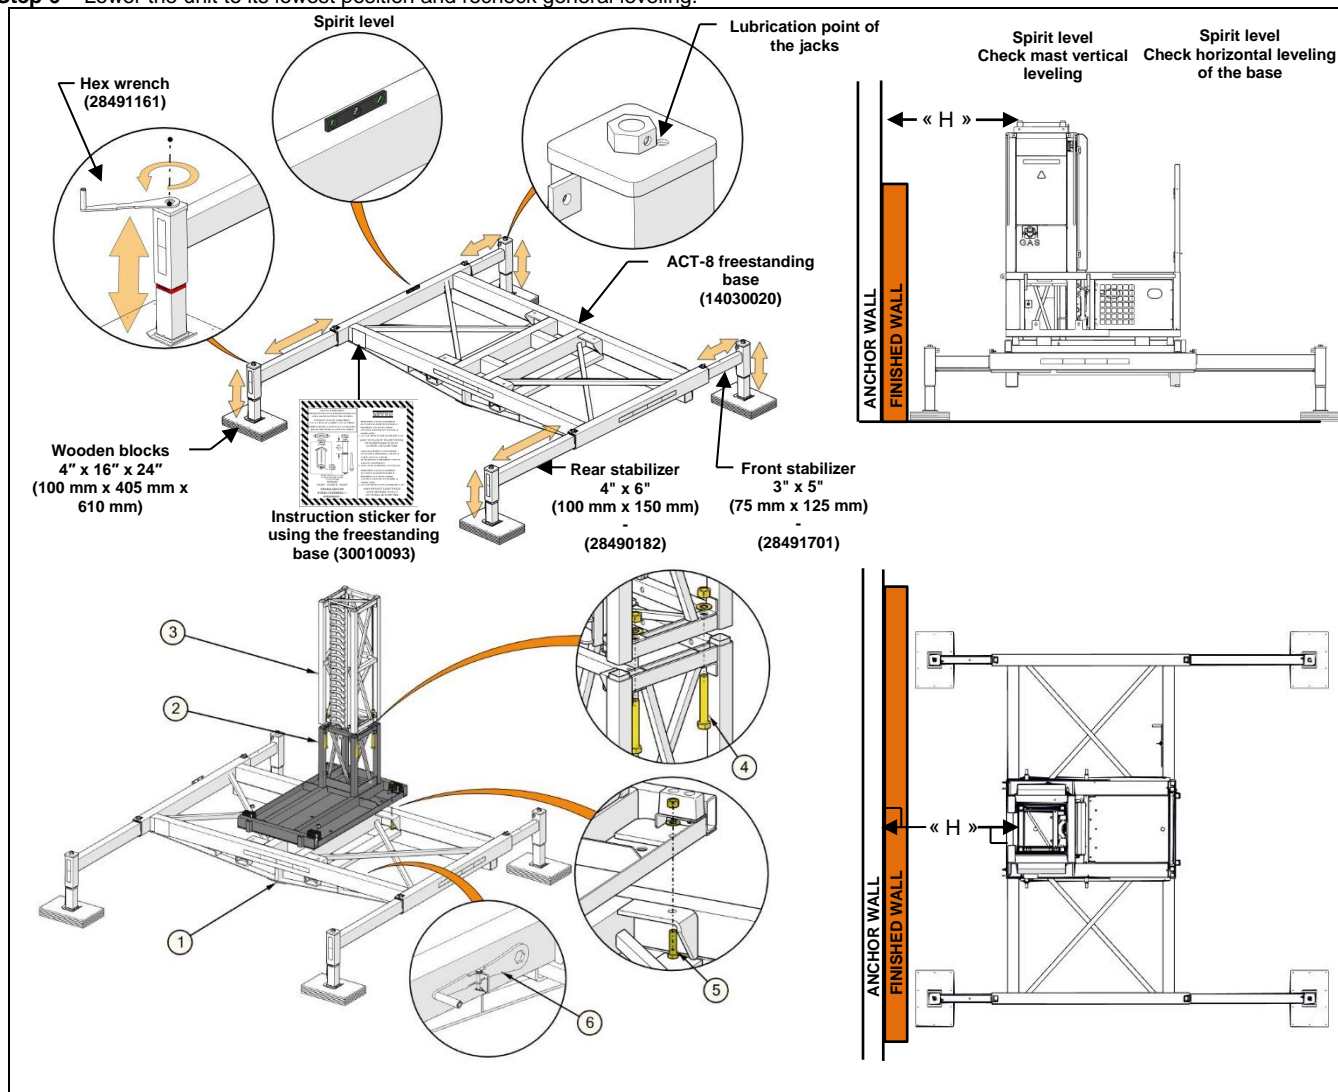

Figure 53 - Installation of ACT-8 freestanding base
Step 4 – Install the ground base (14030019) directly onto the ACT-8 freestanding base (14030020) as shown in Figure 53. Then, bolt the first mast section of the lifting unit (13030018) to the ground base (14030019).